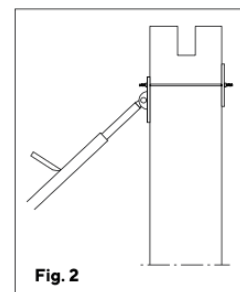

Fig. 2
- 4) Plumb and brace each element with two adjustable braces/struts per element (see Fig. 2).